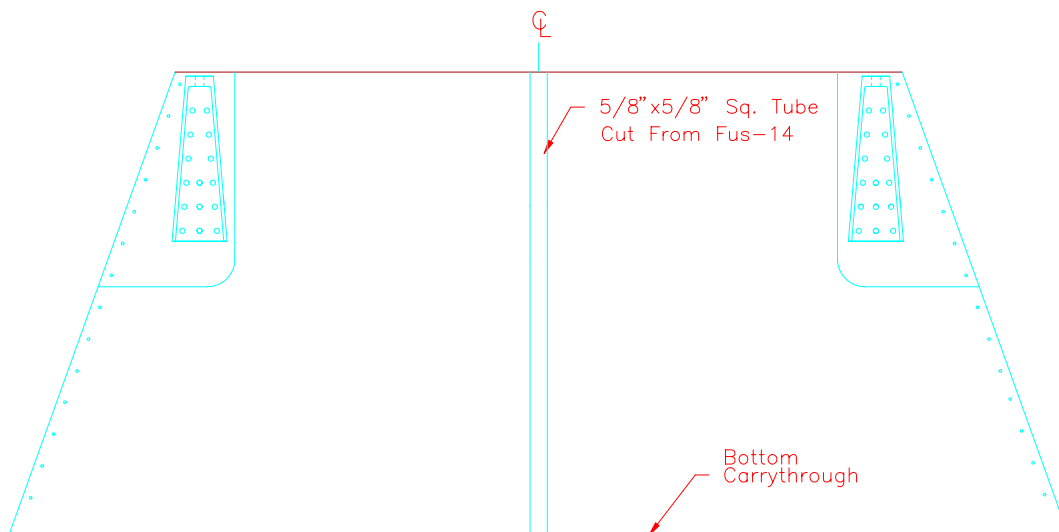

Figure 1
- 22) Position the 5/8" tube on the floor center and back drill #30 holes through the floor into the tube at 1" spacing. Figure 1.